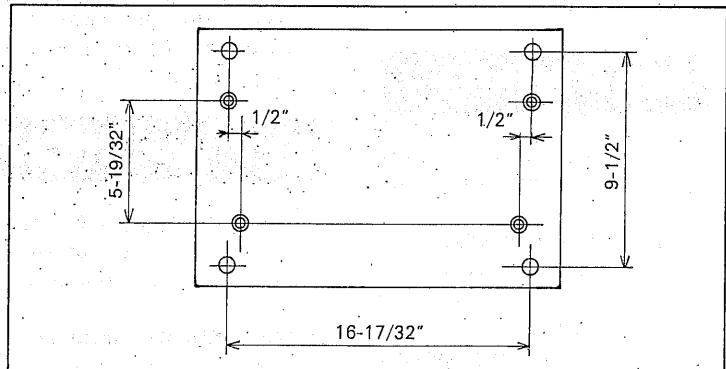

Fig. 26
For bench top operation of the TS-260 the leg stand (accessory code number 673823A) is available from Ryobi. To mount the TS-260 to the stand, the proper sized wooden board needs to be prepared by users. (See Fig. 26).
1. Holes should be positioned according to Fig. 26.